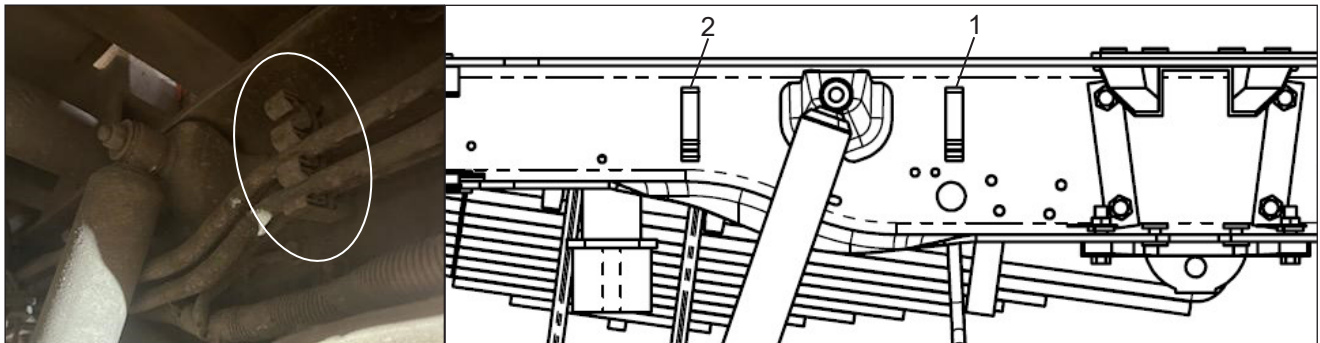
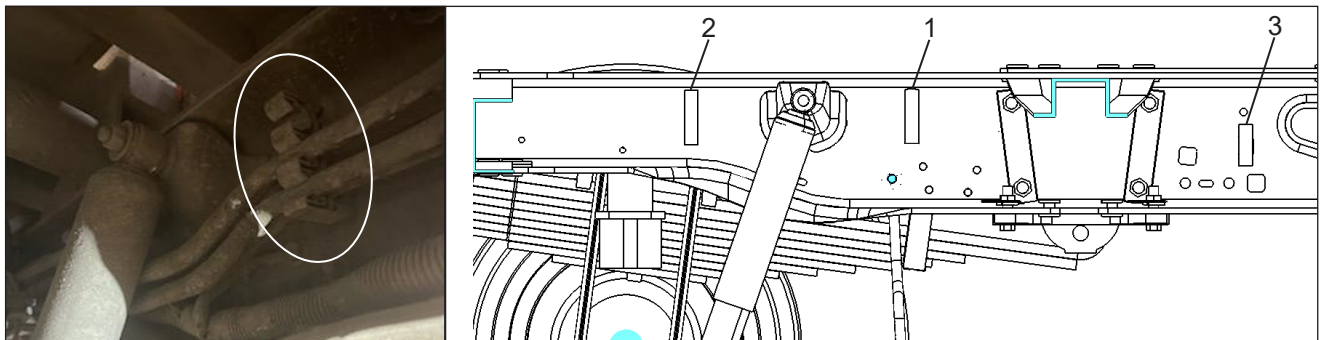
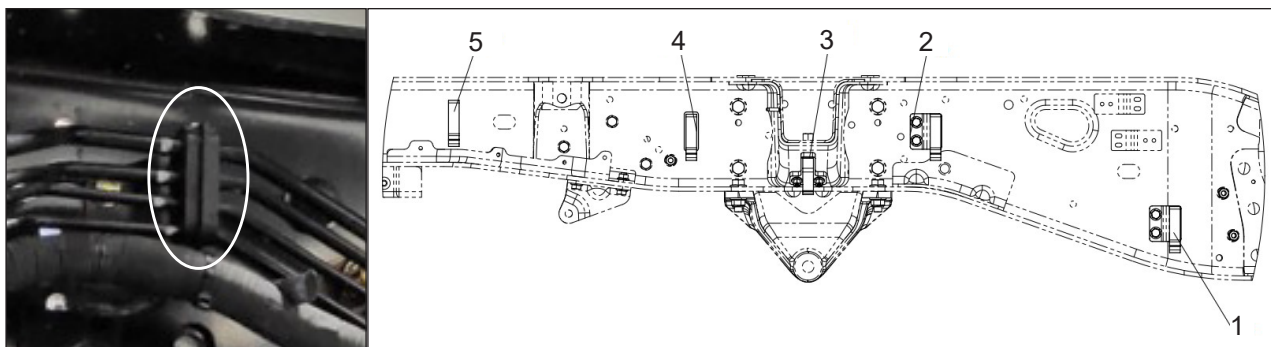

Figure 3 — 2016 Ford Fuel Line Brackets
Figure 4 — 2017 and Newer Ford Fuel Line Brackets
Figure 5 — 2016 and Newer Dodge Fuel Line Brackets
3. Locate the fuel line brackets holding the fuel lines and brake lines on the inside of the street side chassis frame rail. The number of brackets depends on the model year and make of the chassis. Refer to Figure 3 for a 2016 Ford chassis, Figure 4 for a 2017 and newer Ford chassis, and Figure 5 for a 2016 and newer Dodge chassis.
4. Inspect each fuel line bracket location as shown in the images corresponding to the chassis model year and make (Figure 3, 4, or 5) to check for the bracket presence, condition, and securement to the frame rail by a nut or fir tree clip (refer to Figures 6 and 7). Record the inspection results in Figure 8. Then add up and record the total number of "Yes" results, if any, at the bottom of Figure 8. Note that a 2017 and newer Ford chassis requires separate missing or damaged "Yes" totals for locations 1 and 2 vs. location 3.